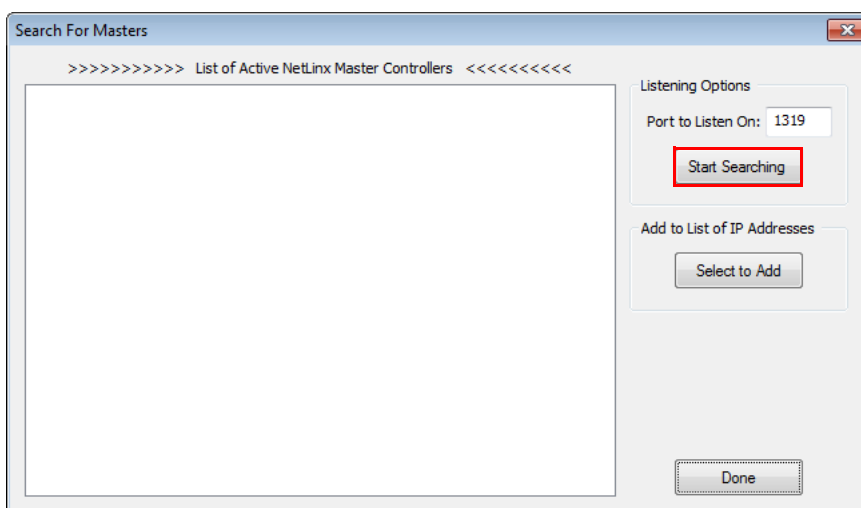

FIG. 29 Search for Masters dialog
- Click **Search For Masters** to search the network for online Masters in the Search for Masters dialog (FIG. 29).